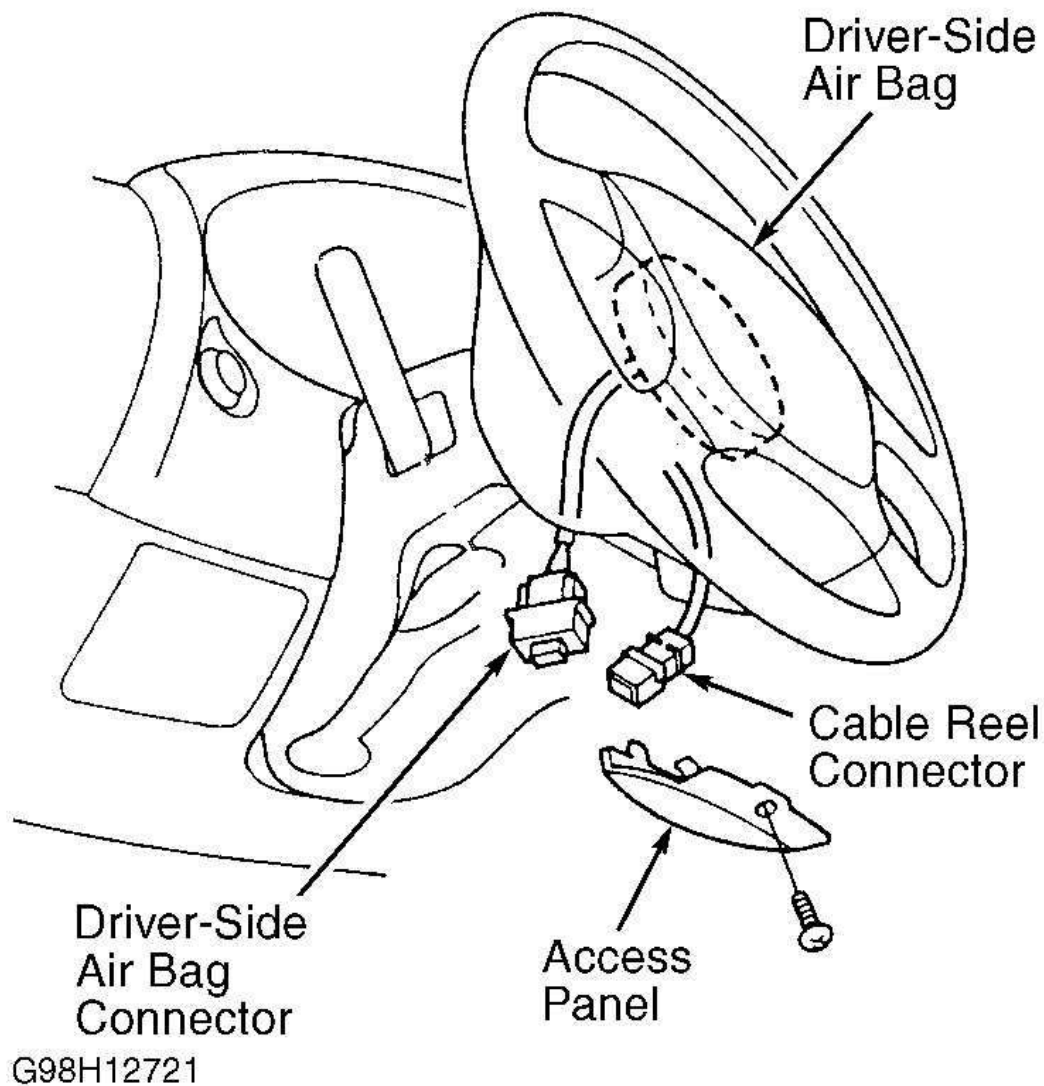

Fig. 1: Locating Driver-Side SRS Maintenance Lid & Connector (Typical)
1. Turn ignition off. Disconnect both battery cables. Remove access panel from steering wheel. See Fig. 1 .
Turn ignition off. Disconnect battery cables. Wait at least 5 minutes to allow capacitor in back-up circuit to discharge. Remove access panel below driver's air bag on steering wheel. See **Fig. 1** . Disconnect driver-side air bag 2-pin connector from cable reel 2-pin connector.